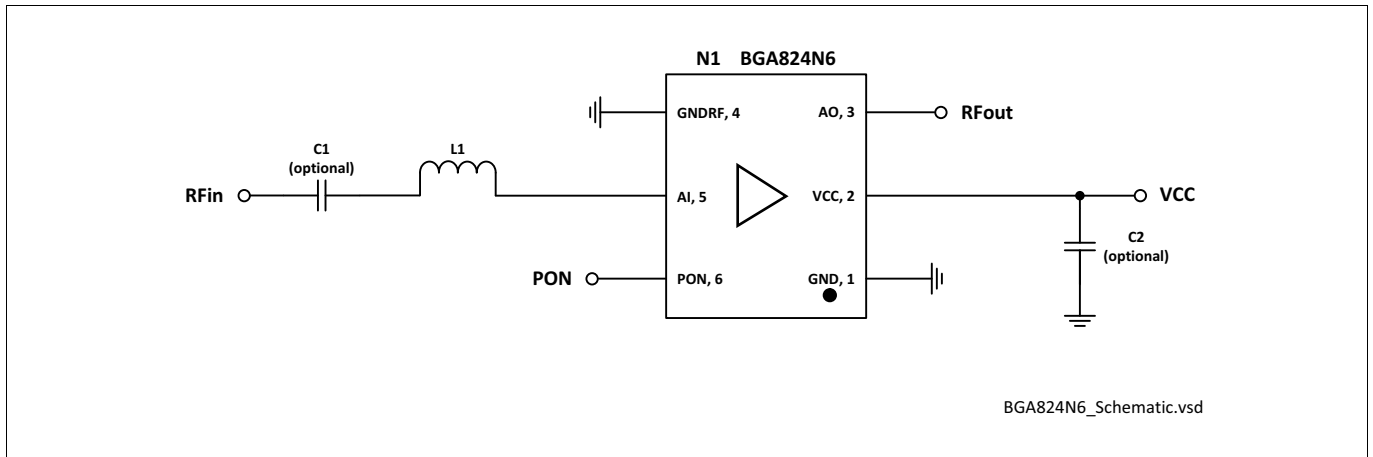

Figure 2 Application Schematic BGA824N6 f = 1550 - 1615 MHz
1) Based on the application described in Figure 2 in Chapter 4